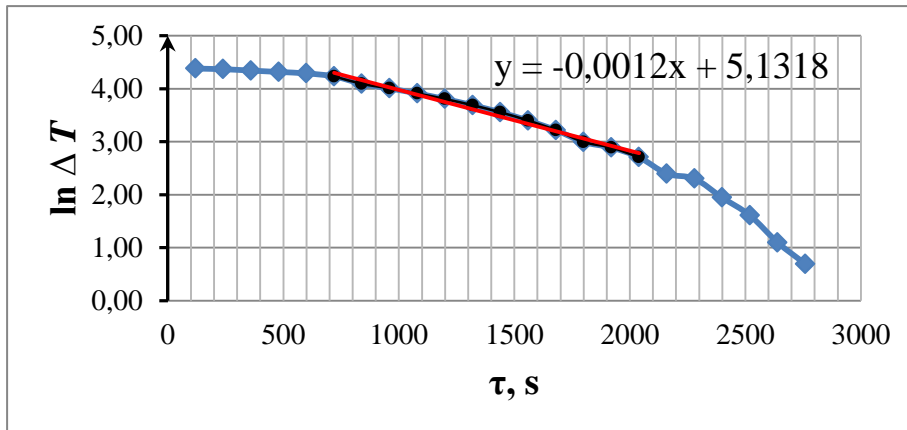

Fig. 2.2.1
2. Build a graph  $\ln \Delta T = f(\tau)$  in Excel (see Fig. 2.2.1).